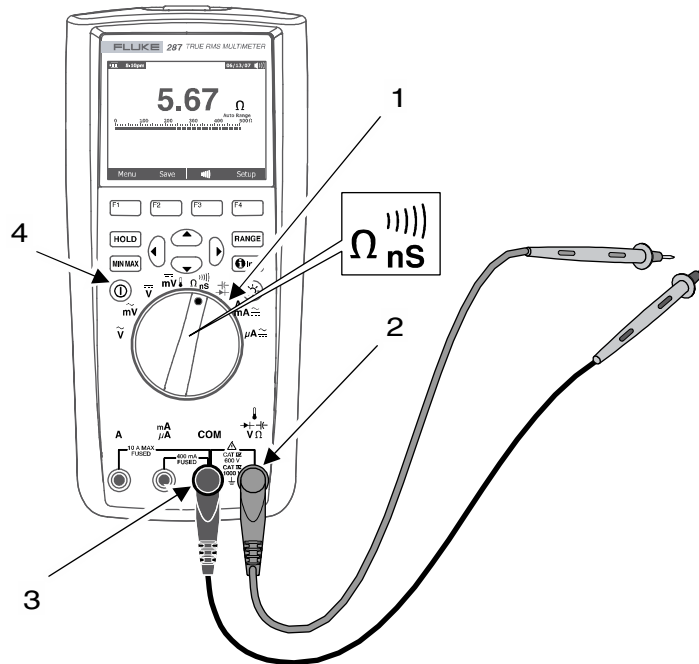

Figure 12. Resistance Mode
1. Insert the black test lead into the COM terminal (Figure 12., Item 3).
2. Insert the red test lead into the volts/resistance terminal (Figure 12., Item 2).
3. Press the On/Off button (Figure 12., Item 4) to turn the multimeter on.
4. Position the rotary switch (Figure 12., Item 1) to the Ω position. The multimeter is ready for standard resistance measurements.
10. To exit the resistance mode, move the multimeter rotary switch (Figure 12., Item 1) to any other mode.